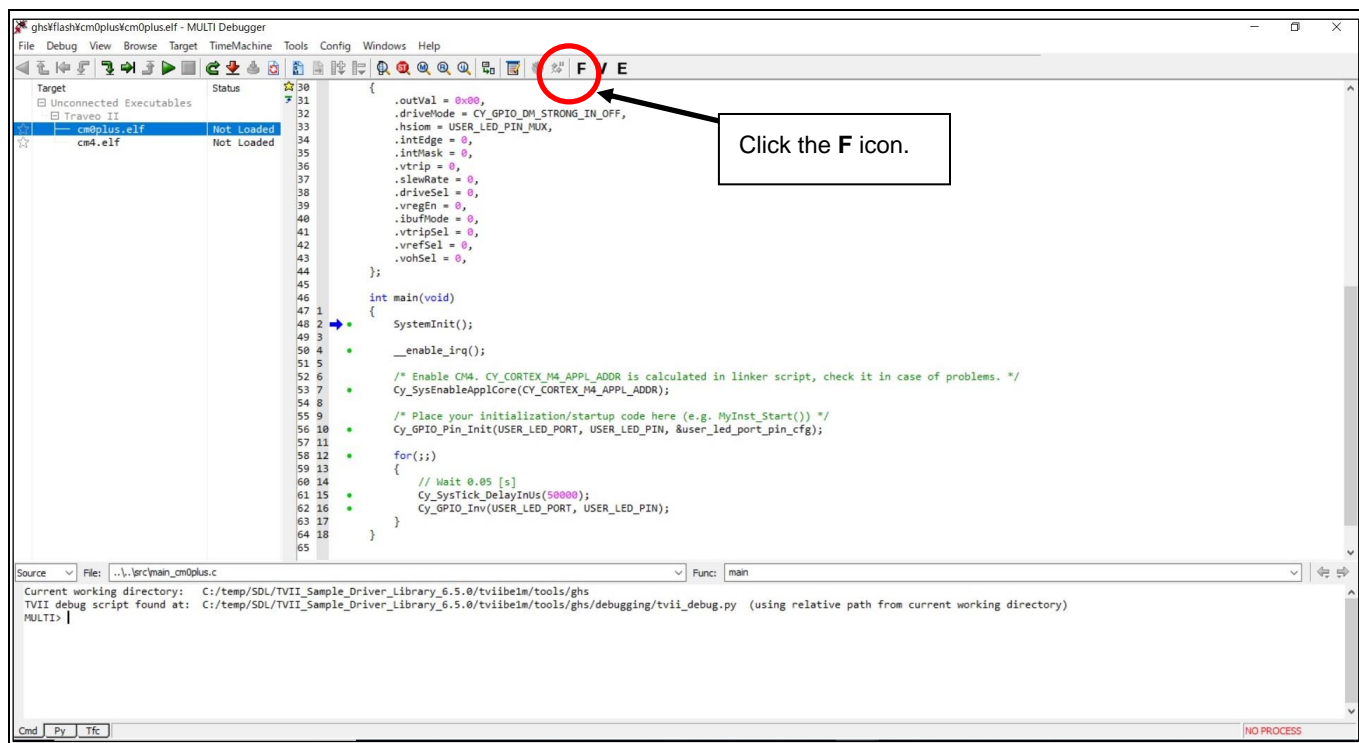

Figure 17 Load to Flash memory
- To load the program to the Flash memory, click the **F** icon as shown in **Figure 17**. Loading of the program to the Flash memory begins.